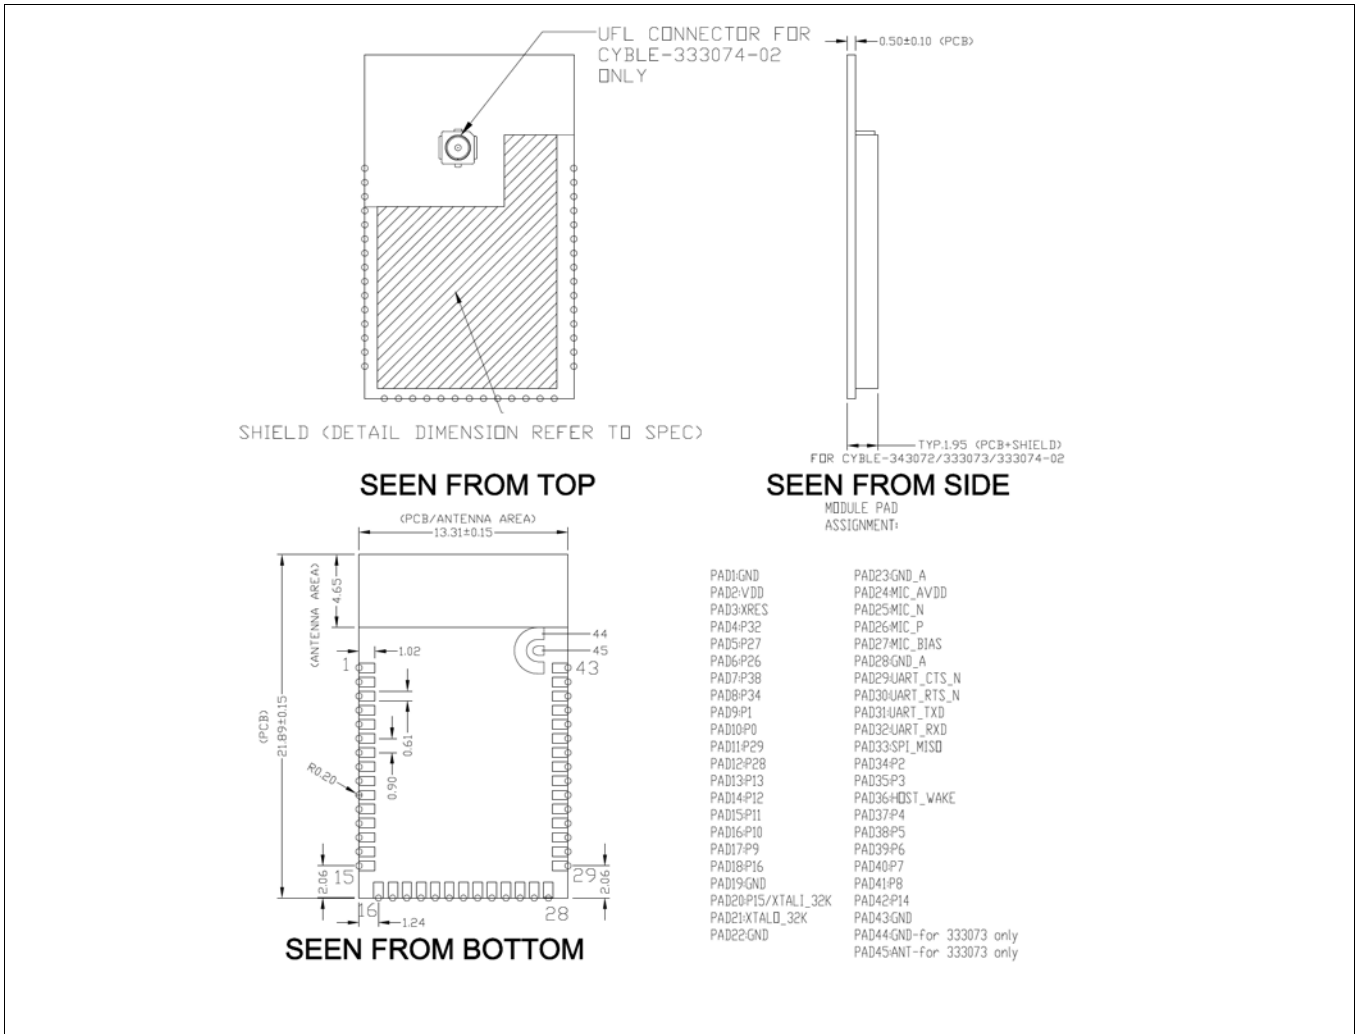
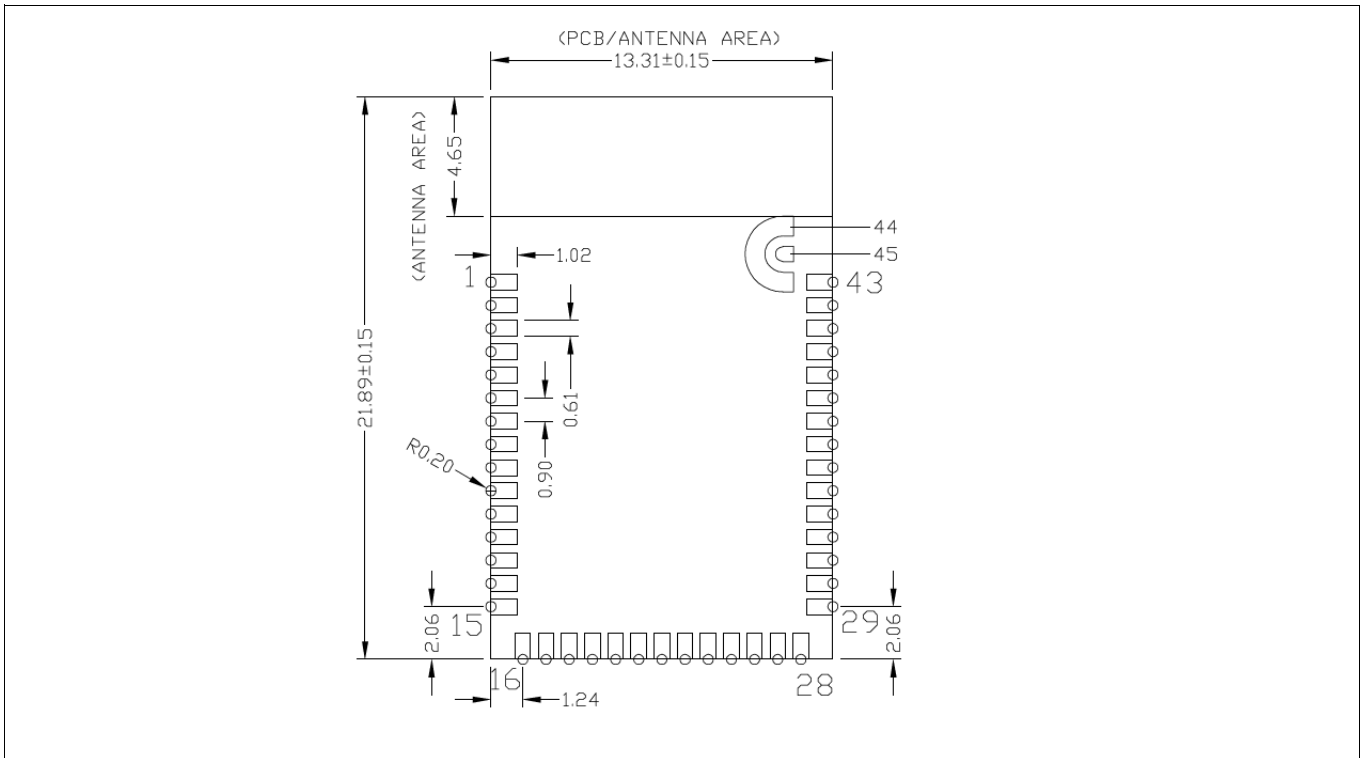

Figure 2 Module mechanical drawing
Figure 3 Solder pad dimensions (seen from bottom)
Infineon reserves the right to select components from various vendors to achieve the Bluetooth® module functionality. Such selections will still guarantee that all mechanical specifications and module certifications are maintained. Designs should be held within the physical dimensions shown in the mechanical drawings in Figure 2. All dimensions are in millimeters (mm).
See **Figure 2** for the mechanical reference drawing for CYBLE-3x307x-02.
As shown in the bottom view of **Figure 2**, the CYBLE-3x307x-02 connects to the host board via solder pads on the backside of the module. **Table 2** and **Figure 3** detail the solder pad length, width, and pitch dimensions of the CYBLE-3x307x-02 module.
1. Antenna Area Keepout: The host board directly below the antenna area of the module (see **Figure 2**) must not contain ground or signal traces. This keepout area requirement applies to all layers of the host board.
2. Module Placement: The ideal placement of the Bluetooth® module is in a corner of the host board with the PCB trace antenna located at the far corner. This placement minimizes the additional recommended keepout area stated in item 2. Refer to **AN96841** for module placement best practices.